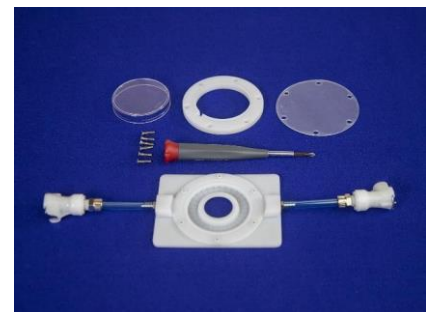

Figure 24. StageFlexer I® components prepared for assembly.
- Assembly of the StageFlexer I® will require a small screwdriver. The provided components include (see Fig. 24):